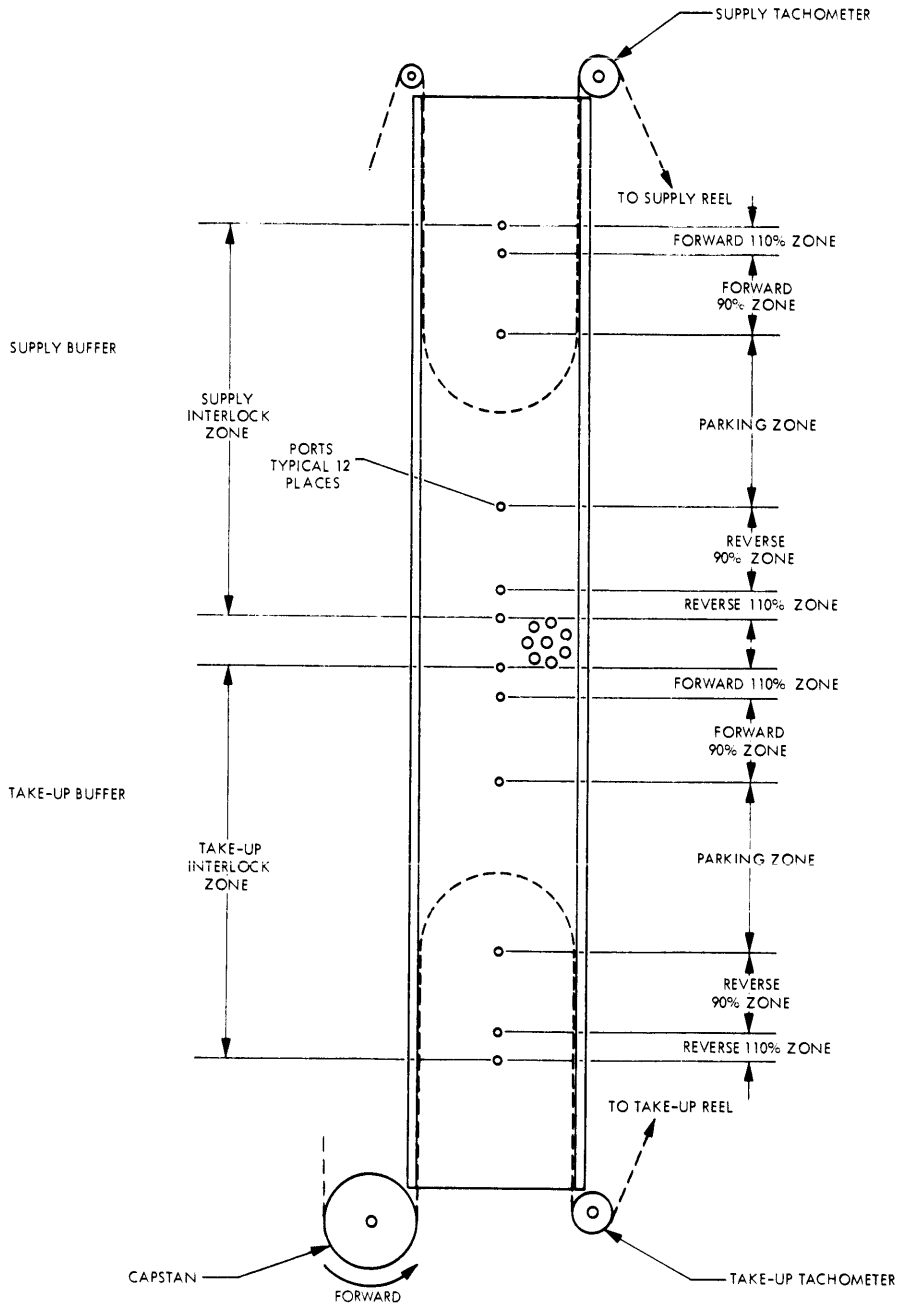

Figure 4-4. Vacuum Column Organization
Each servo uses an independent tachometer feedback for control of tape velocity. The tachometers are located at the entrance to each vacuum chamber as shown in Figure 4-4 and are driven by the tape as it enters each chamber.
The velocity that each reel servo seeks at any point in time is that of the capstan motor. This is done by comparing the output of the capstan tachometer and the reel tachometers. The difference obtained by this comparison is an error signal which is used to control the reel motors. This error signal is modified by the physical position of the tape loop in the chamber. The loop position is sensed at discrete points in the column by vacuum switches attached to small ports in the column floor. These ports organize the column into the working zones shown in Figure 4-4.
- (1) EOT/BOT. The EOT and BOT signals indicate the two reference positions on the tape. The BOT (Beginning of Tape) indication is used to stop the normal LOAD sequence, the reverse motion and the rewind operation. It also conditions the Rewind Control logic for an unload operation. The EOT indication marks the End of Tape and stops only a manual forward operation.
- (2) ON LINE. The ON LINE switch/indicator conditions the Control Logic to accept either interface (On-line) commands or manual (Off-line) commands.
- (3) 1600 BPI. This command conditions the Read Electronics to operate in the PE mode.
- (4) READY. The Control Logic will accept commands only when the logic is interlocked, the initial Load sequence has been completed, the transport is On-line and is not rewinding or unloading. This condition is signaled by a true condition on the READY line.
- (5) INTERLOCK. The transport is interlocked to ensure proper logic operation. The interlocks provided are:
- (a) VACUUM INTERLOCK. Indicates that the tape is properly positioned in the vacuum chamber (see Figure 4-4).
- (6) WRITE STATUS. Controls the write power to the Write electronics.